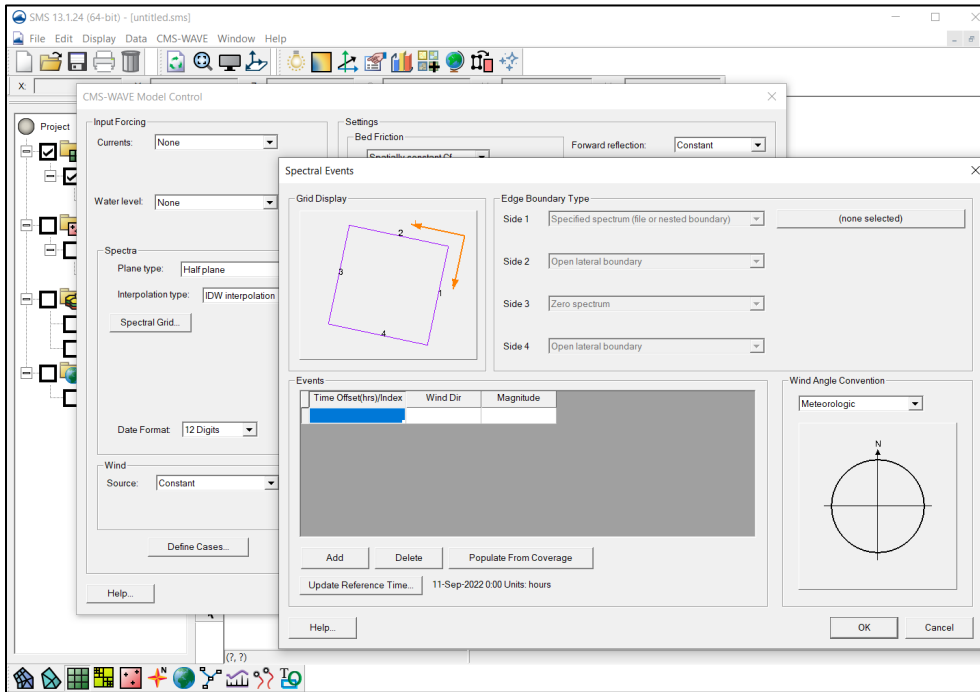

Figure 22. Display *Spectral Events* dialog.
- At the bottom of the *Input Forcing* section, click **Define Cases...** to bring up the *Spectral Events* dialog (Figure 22).